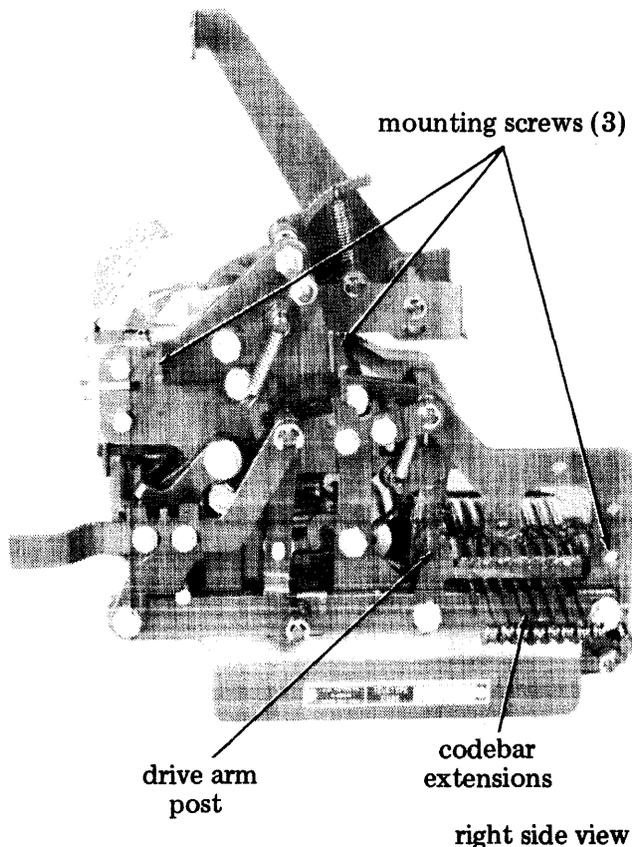

Figure 7 - Model 38 Punch
2.13 Remove punch (Figure 7) as follows: